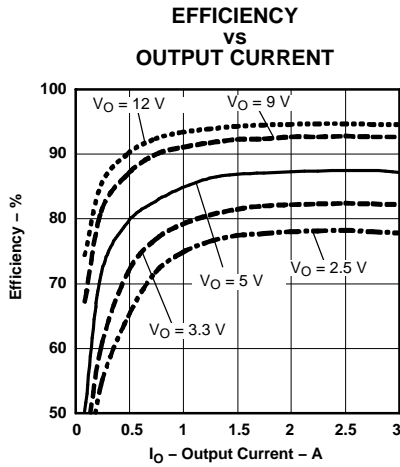
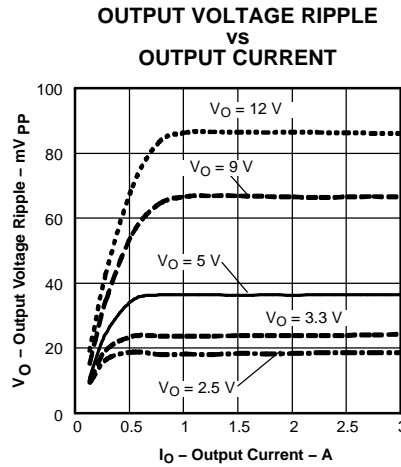
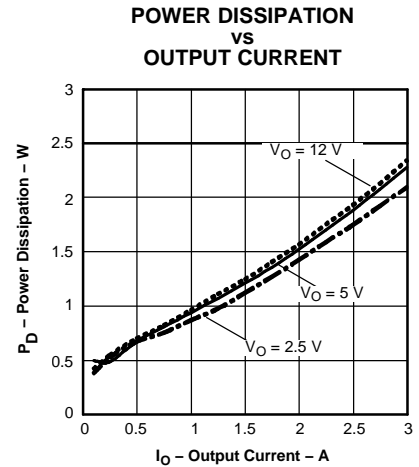

Figure 12.
Figure 13.
Figure 14.
- (5) The electrical characteristic data has been developed from actual products tested at 25°C. This data is considered typical for the converter. Applies to Figure 12, Figure 13, and Figure 14.